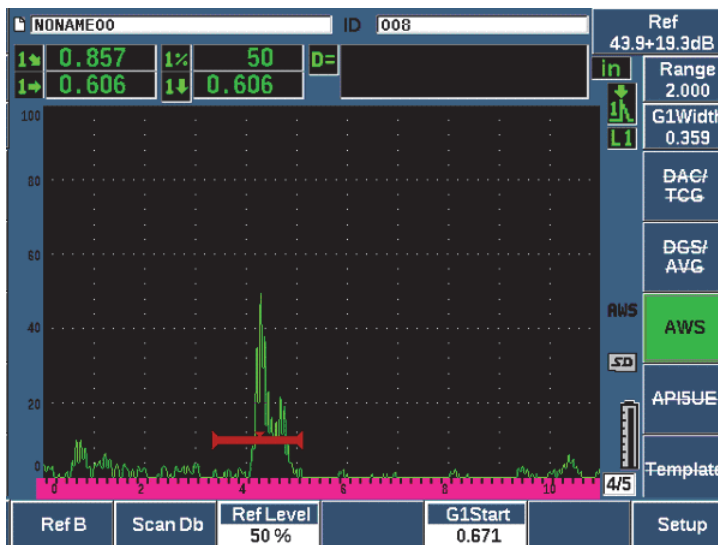

Figure 11-19 Reference B value before storage
3. Choose **AWS > Ref B** to store the gated reflector as the **Ref B** value and choose **YES** to confirm (see Figure 11-19 on page 264).